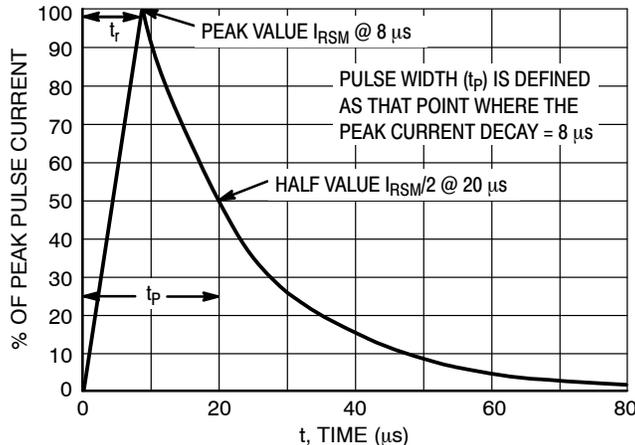

Figure 5. 8 x 20  $\mu$ s Pulse Waveform
- Surge current waveform per Figure 5.